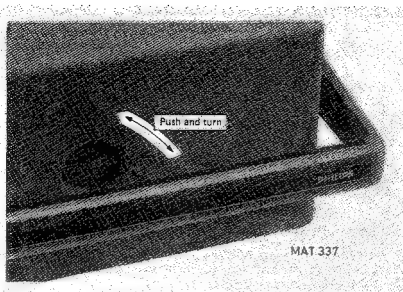

Fig. 2.1. Removing the front cover.
2.1.1. Removing and fitting the front cover (see fig. 2.1.)